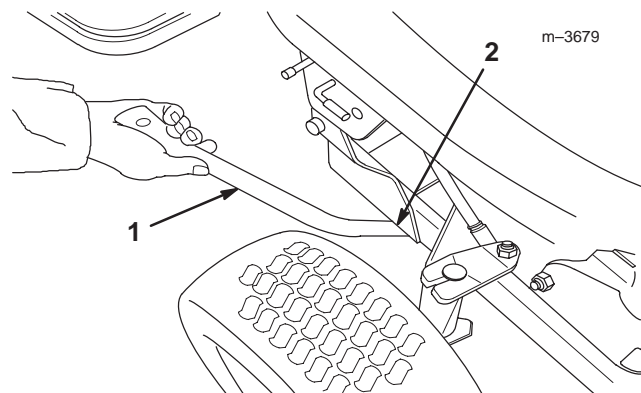

Figure 14
3. Slide the round end of the crank support under the notch in the snowthrower frame (Fig. 14).